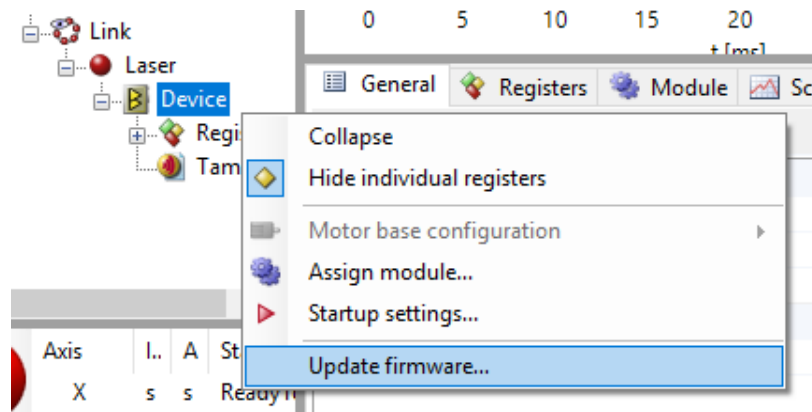

Figure 29: Firmware download via the station node.
- Right click the device to open the context menu (Figure 29).